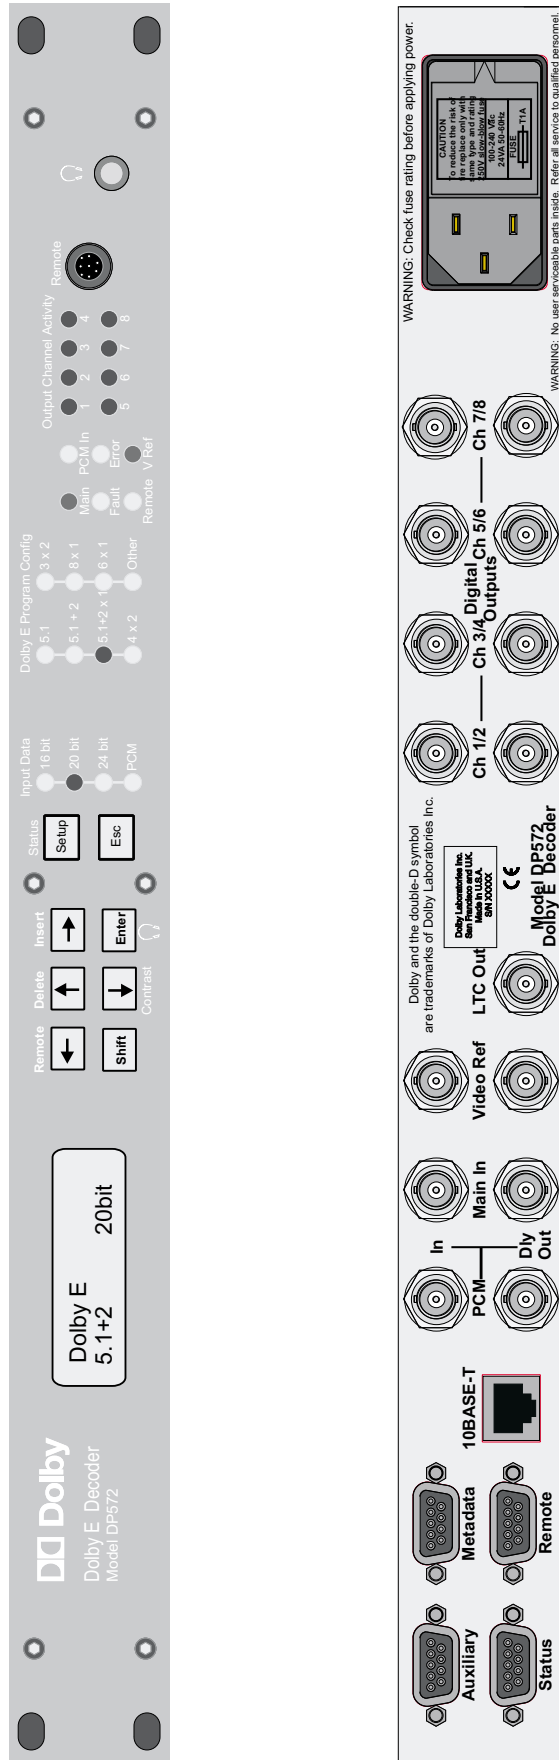

Figure 4-2 DP572 front and rear panels
- Figure 4-2 – DP572 front and rear panels